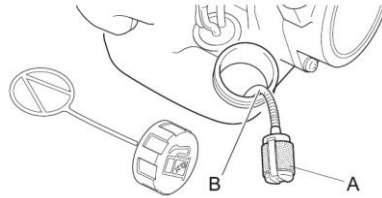

Fig. 8
WARNING! If the engine of the blower fails to start, check the fuel filter (**Fig. 8-A**) and replace it if it is clogged.
3. Remove the fuel filter (**Fig. 8-A**) from the tank with a metal hook.
4. Remove the filter from the fuel line (**Fig. 8-B**) and replace it with a new one.